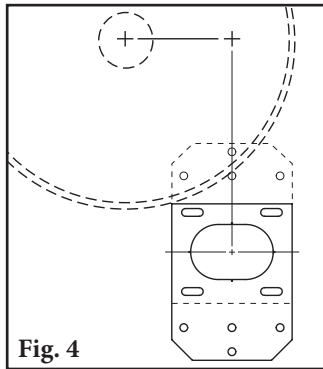

Fig. 4
6. **Locate offset bracket position.** To locate the position of the offset bracket, position offset bracket template with the large cutout and notches aligned with the layout lines on the chute wall (Fig. 4). The template can be used with the bracket holes either below or above the Y mark.